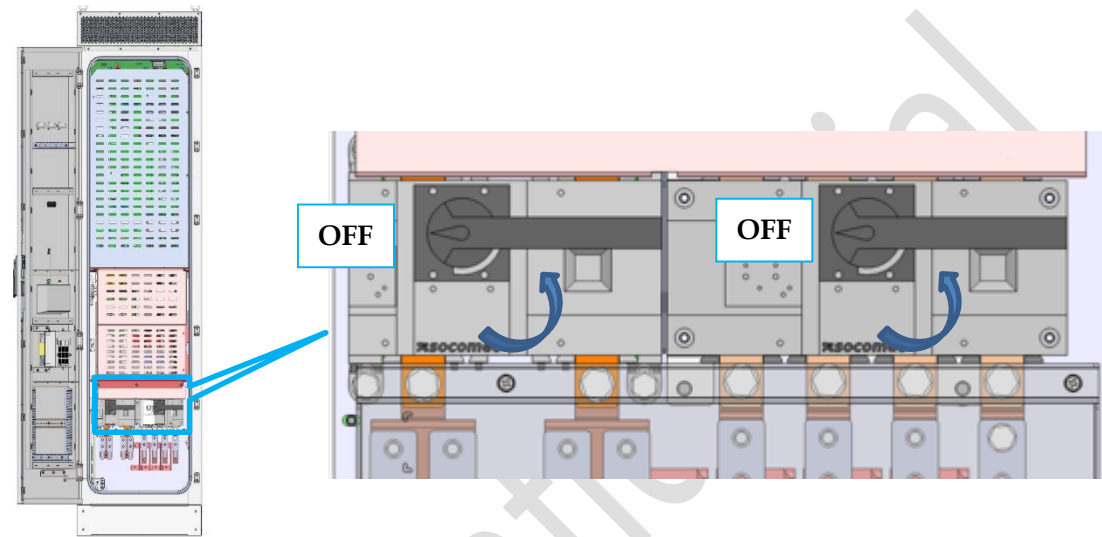

Figure 5-2 AC and DC disconnects OFF location
Step 4: turn the AC and DC switches/disconnects in the front of the cabinet to OFF state as shown in Figure 5-2. The PCS powers off and one can do maintenance to PCS.